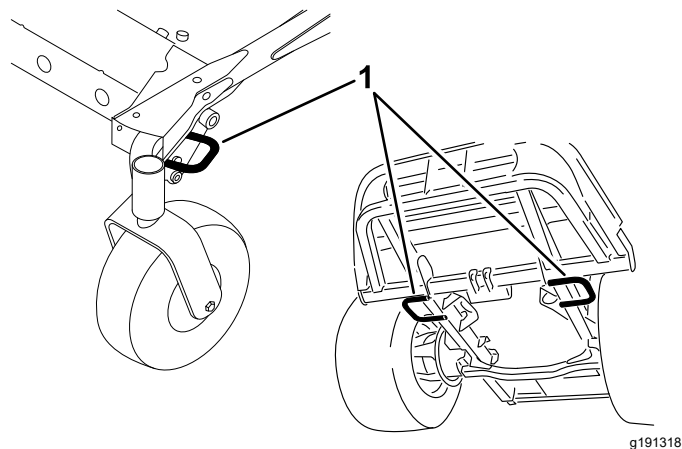

Figure 26
5. Use the tie-down loops on the machine to securely fasten it to the trailer or truck with straps, chains, cable, or ropes (Figure 26).